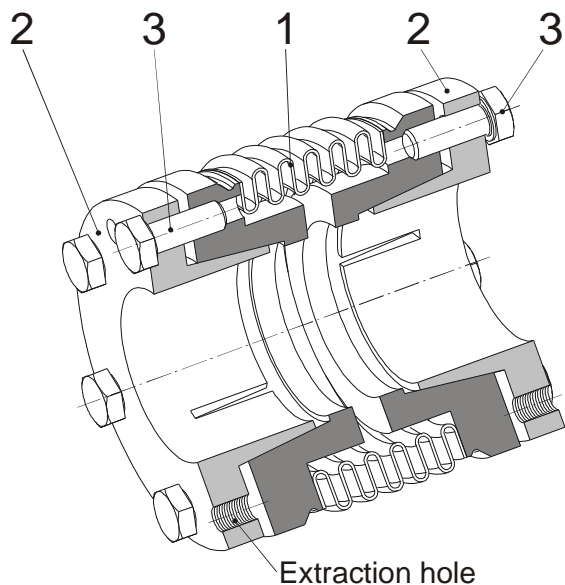

Fig. 1: Type 931.311
## Coupling Installation Type 931.311 (Fig. 1)
For disassembly, two (on size 5, four) extraction holes (Fig.1) are to be found in the cone bushings (2) (Fig. 1). After all the hexagon head screws (3) have been loosened, the cone bushings (2) can be pushed out using the hexagon head screws (3) from the metal bellows (1) hub.